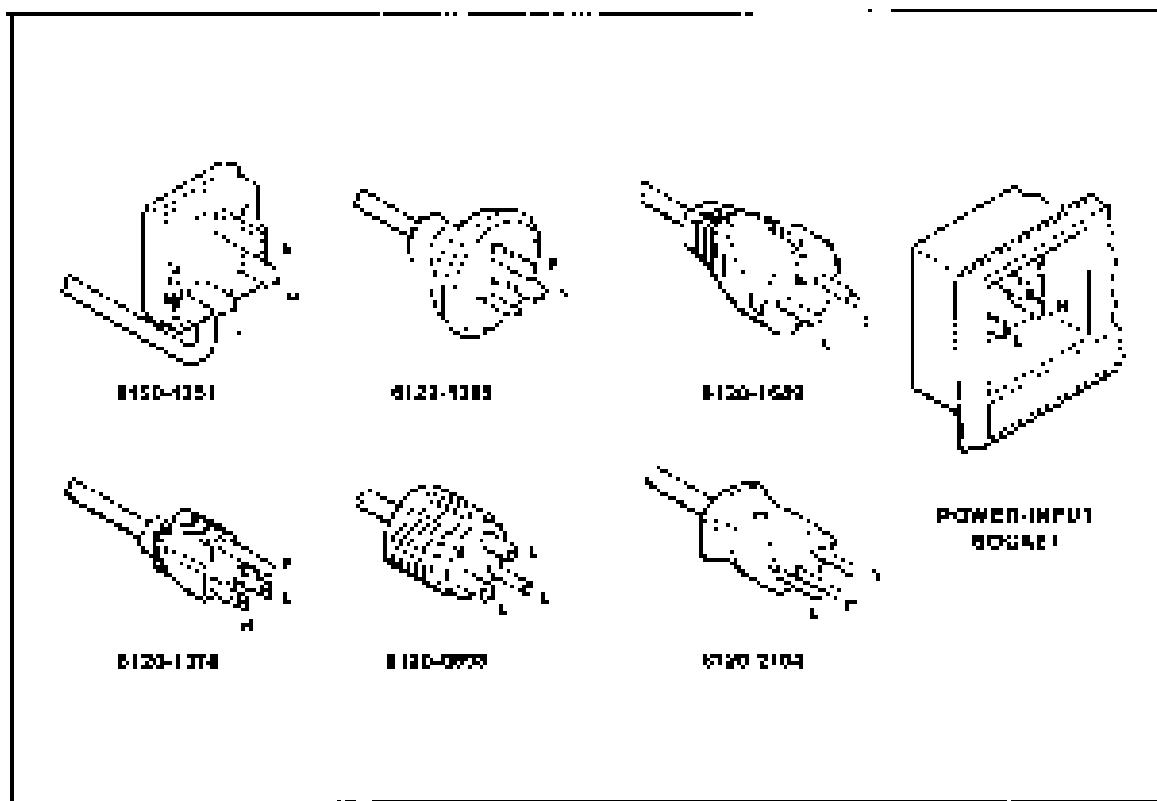

Figure 2-1. Power Cable W/ Part Numbers versus Mains Plug Available
2-2. Inspect the shipping container for damage. If the shipping container or cushioning material is damaged, it should be kept until the contents of the shipment have been checked for completeness and the shipment has been checked physically and electrically. The contents of the shipment should be as shown in Figure 2-1. Procedures for checking electrical performance are given in Section IV. If the contents are incomplete, if there is visible damage or defect, or if the instrument does not pass the electrical performance test, notify the nearest Hewlett-Packard office. If the shipping container is damaged, or the cushioning material shows signs of stress, notify the carrier as well as the Hewlett-Packard office. Keep the shipping material for the carrier's inspection.
- 2-11. The HP 5314A is shipped with a three-wire power cable. The type of power cable plug shipped with the unit depends on the country of destination. Refer to Figure 2-1 for the part numbers of the power cable and plug configurations available.